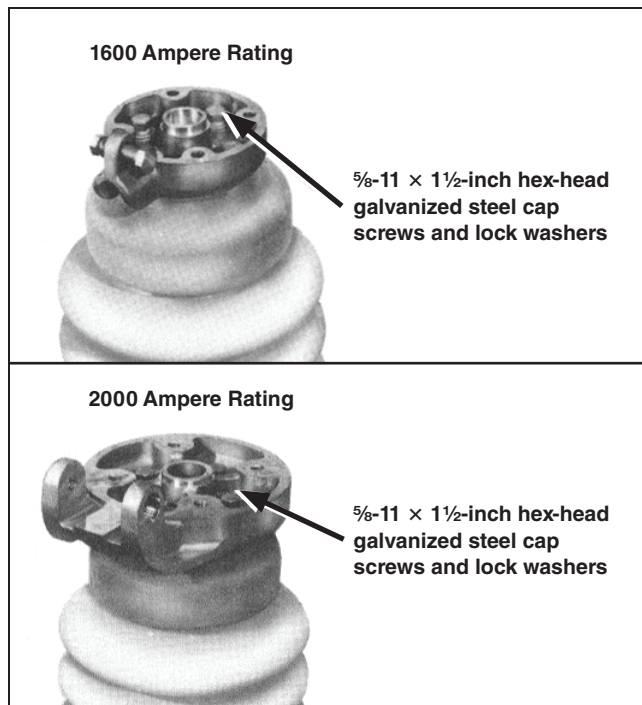
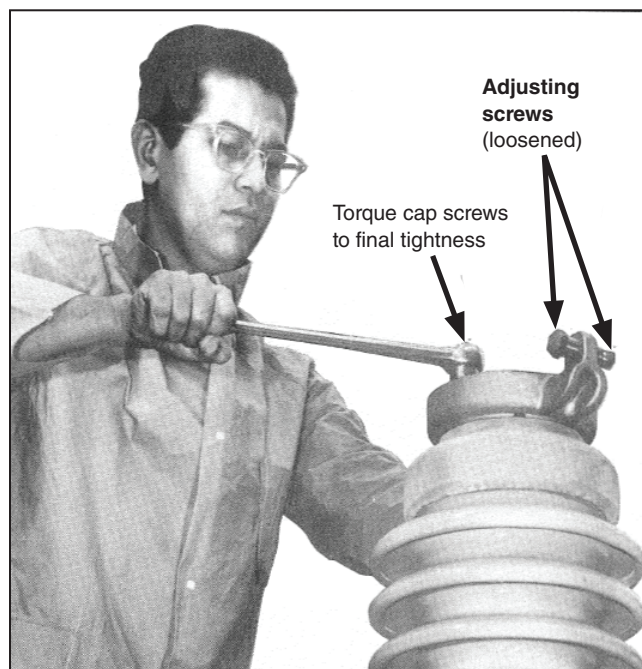

Figure 10. Blade adjustment discs.
Figure 11. Mounting blade adjustment discs (one on each insulator stack.) 1600 ampere rating shown.
STEP 12. Mount a blade-adjustment disc on each rotating insulator stack using hex-head galvanized steel cap screws as shown in Figure 10 (see also Figure 11).